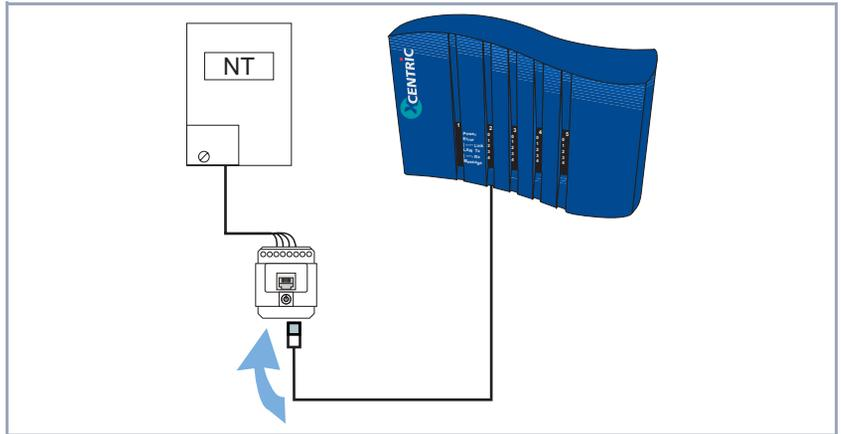

Figure 6-20: Connection to an RJ45 socket
2. to an RJ45 socket connected in series with the NTU (figure 6-20, page 89).